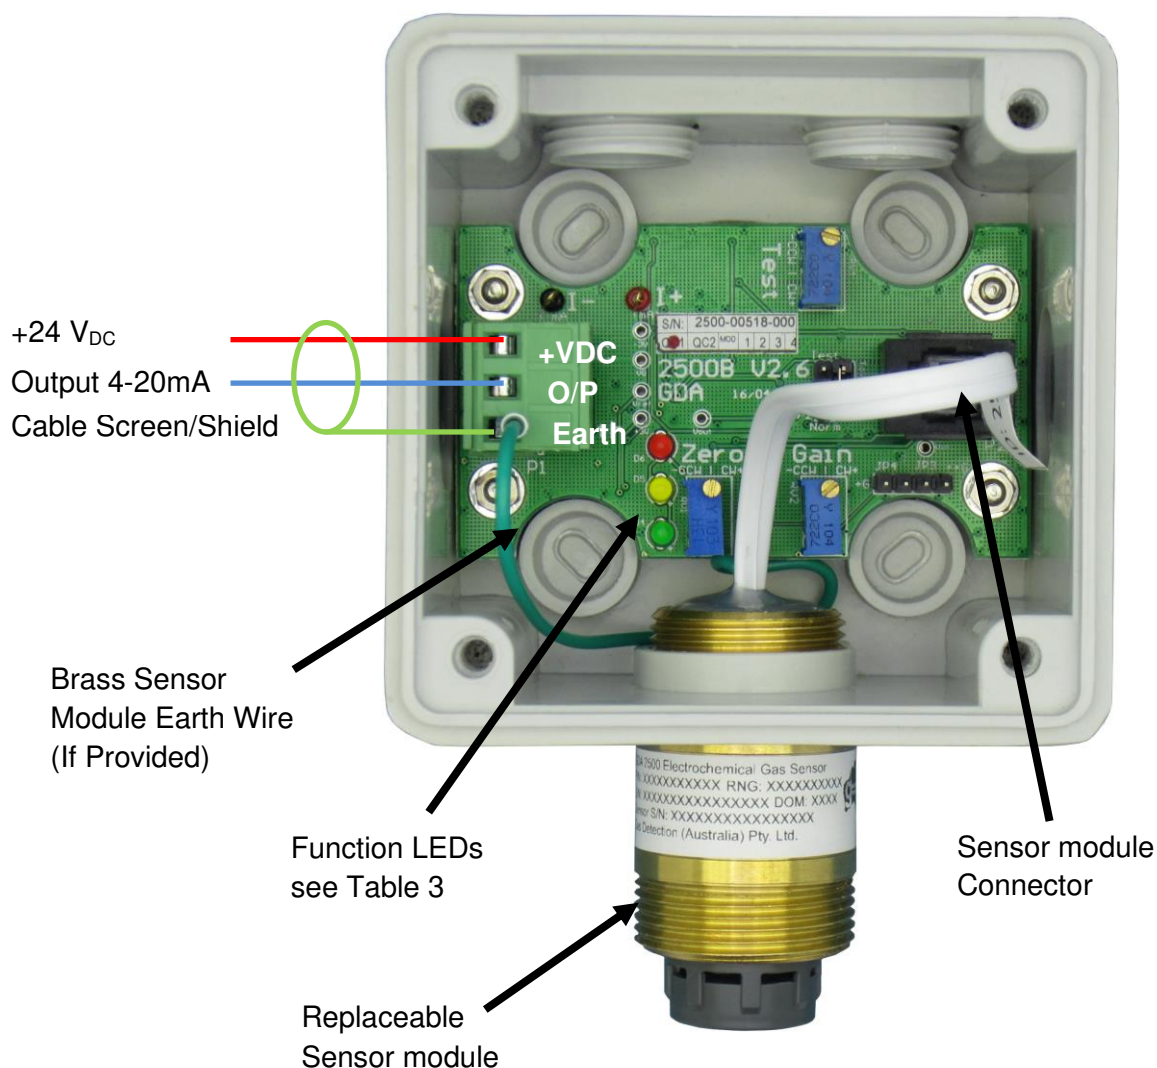

Figure 4: Sensor Wiring
The sensor should be connected as per the wiring diagram in Figure 4 on page 9.
3. Disconnect the Sensor Assembly Connector (Figure 4).